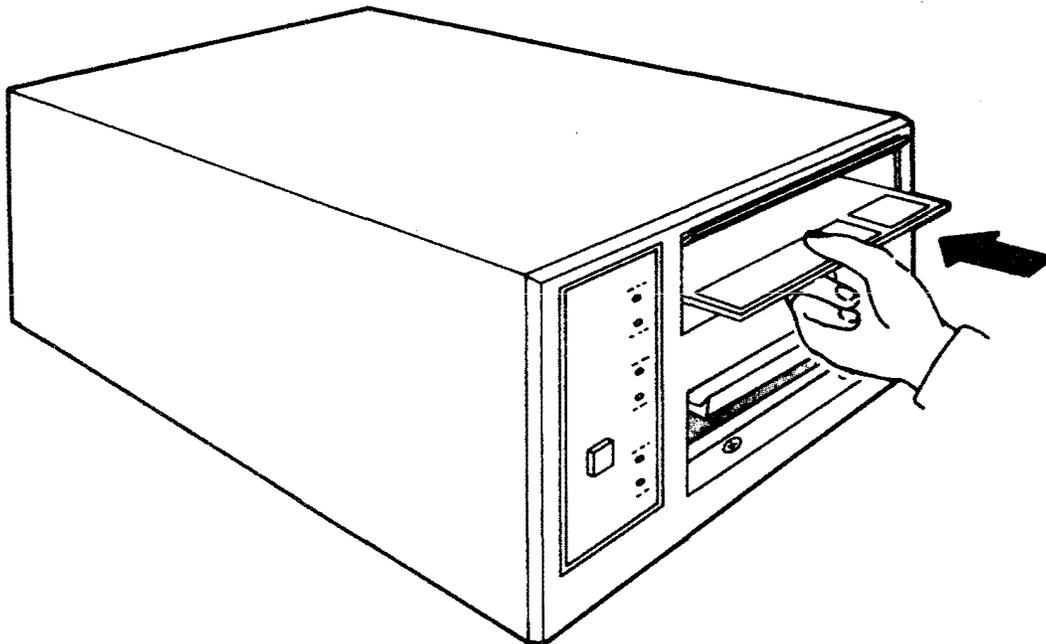

Fig. 11 — Inserting the Diskette
**9.08** The drive doors of all Comm-Stor II units are equipped with an interlock which prevents them from closing unless a diskette is inserted properly (Fig. 11).
- (b) Grasp the diskette between the thumb and index finger. The label should be face up and toward the user (Fig. 11).